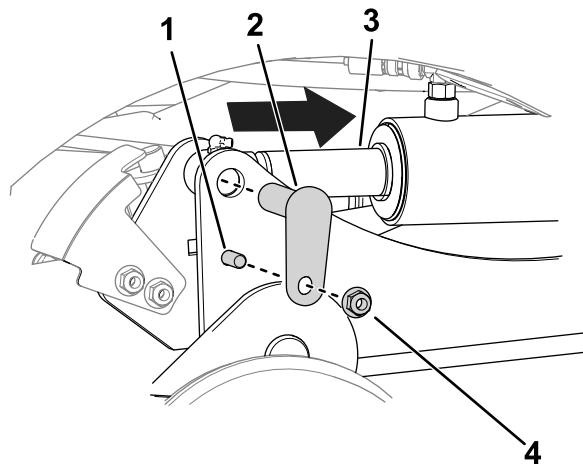

Figure 7
- B. Use a drift punch to align the cylinder rod holes with the lift-arm holes (Figure 7).
- C. Use 2 bolts (3/8 x 1-1/4 inches), 2 nuts (3/8 inch), and 2 small pins to secure the lift arms to the cylinders (Figure 7).